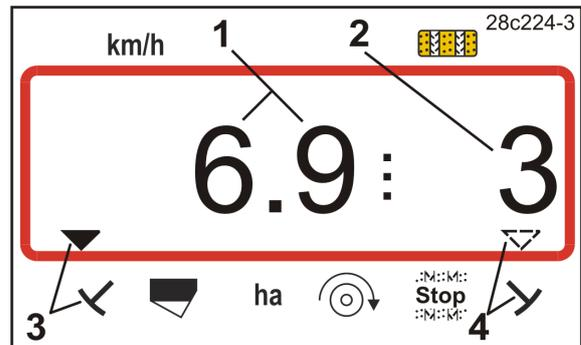

Fig. 36
- Back to the work display (Fig. 36 or Fig. 37).
- Back to work display (Fig. 36 or Fig. 37).
Pressing the  button during operation switches the display (Fig. 36 and Fig. 37).
Display during work (Fig. 36):
- the travel speed (Fig. 36/1), e.g. 6.9 km/h
- the setting of the tramline counter (Fig. 36/2), e.g. tramline counter 3
- the left track marker (Fig. 36/3) is in the working position
- the right track marker (Fig. 36/4) is raised.